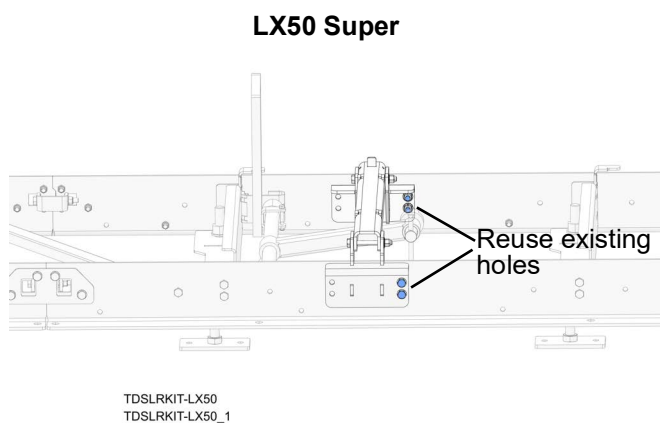

FIG. 4-1
3. Use (4) M10-1.5x35mm hex head bolts, (4) M10 flat washers, and (4) M10x1.5 flanged nylon locking nuts to mount front section of adapter kit to front bed section, as shown in FIG 4-1 and 4-2.